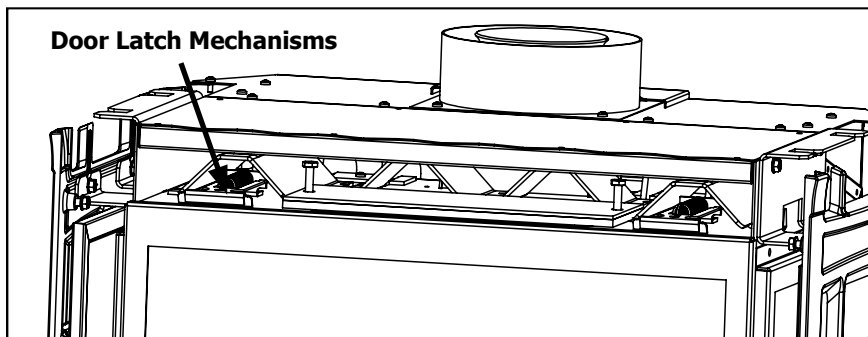
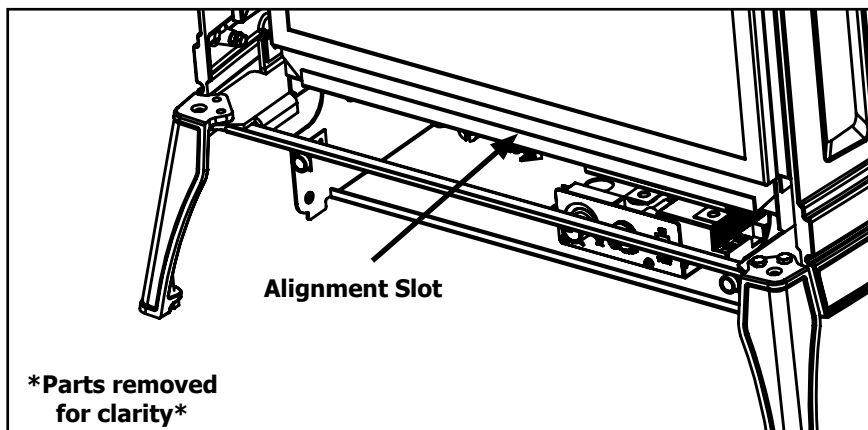

Figure 21. Top latches for glass door (cast top and door removed)
Figure 22. Bottom Alignment Slot for glass door.
In order to install the log set, and for regular cleaning, the glass door must be removed. The cast front must first be removed, as outlined in the section above, before accessing the door latches. There are two (2) door latch mechanisms on top the glass door as shown in Figure 21. Each latch can be pulled straight out and up by hand. When the top latches are unhooked, the door can be lifted up out of the alignment slot at the bottom of the firebox, shown in Figure 22.